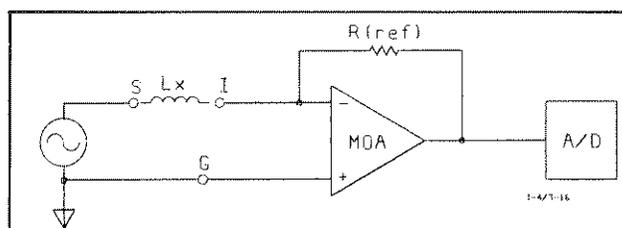

Figure 3-5. T2 Functional Block.
**3-16. T2—Inductance Test.** T2, like T1, applies a known voltage to the inductor under test. The current flowing in the inductor is converted to a voltage using the MOA with a known feedback resistor, see Figure 3-5. Detection is with an ac synchronous A/D. This A/D measures the imaginary (90° phase-shifted) signal that the front panel displays as a positive voltage. This voltage is inversely proportional to the inductive reactance as follows: